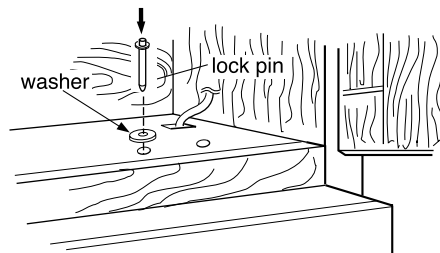

Figure 31
3. Drop the lock pin and washer assembly into hole "N" (left side hole) and push the pin down as far as it will go. See Figure 31.